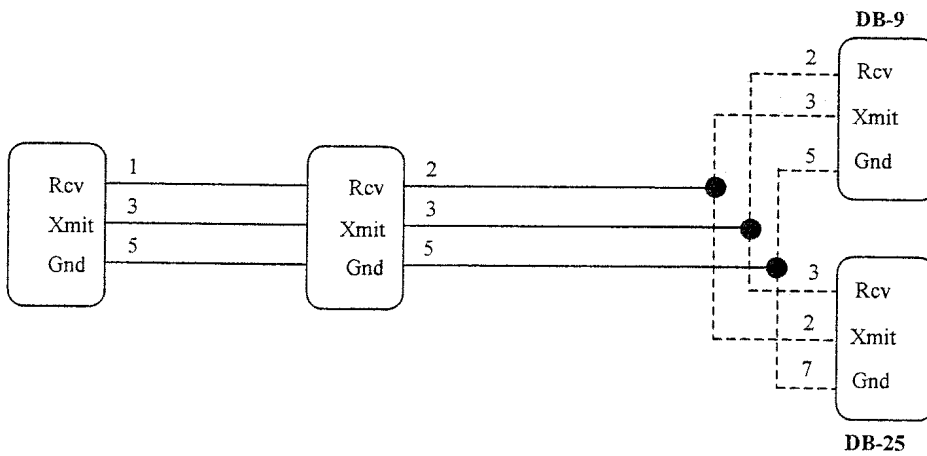
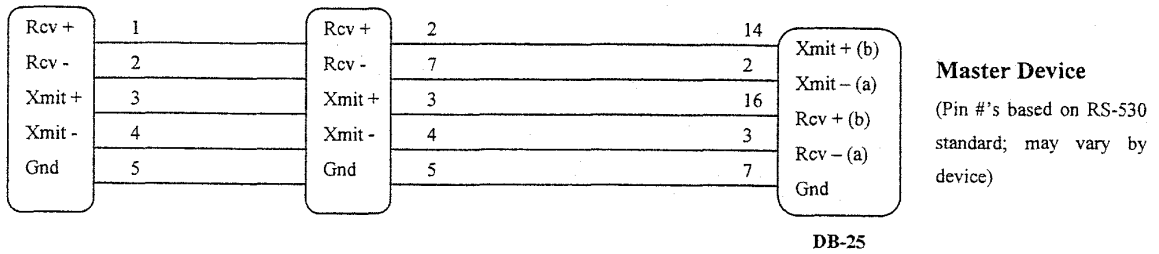
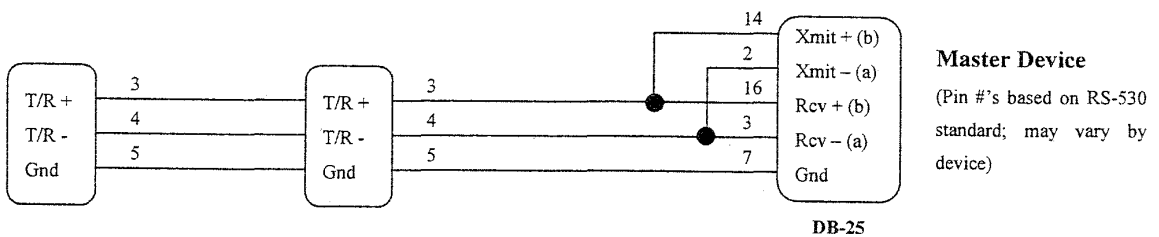

Figure 34: RS232 Wiring
Figure 35: RS422A Wiring (4 wire)
Figure 36: RS485 Wiring (2 wire)
6. Wire the communication connections on the rear of the unit for the desired serial communication interface based on Figure 34: RS232 Wiring, Figure 35: RS422A Wiring (4 wire), or Figure 36: RS485 Wiring (2 wire).